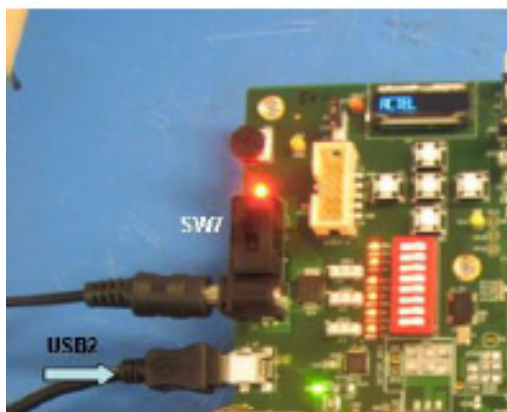

Figure 2-3 • Connecting the USB and 9 V Power Supplies on the M1AFS-ADV-DEV-KIT Board
1. Connect one end of the USB mini cable to USB port J2 on the M1AFS-ADV-DEV-KIT board (labeled USB2 in Figure 2-3 on page 2-18) and connect the other end to the USB port on your PC.
2. Connect one end of a 9 V power supply to power input J3 on the M1AFS-ADV-DEV-KIT board (Figure 2-3) and plug the supply into an electrical outlet.